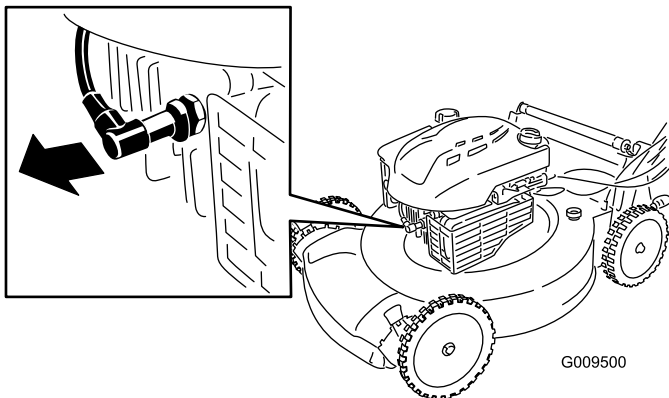

Figure 21
2. Disconnect the spark plug wire from the spark plug (Figure 21) before performing any maintenance procedure.